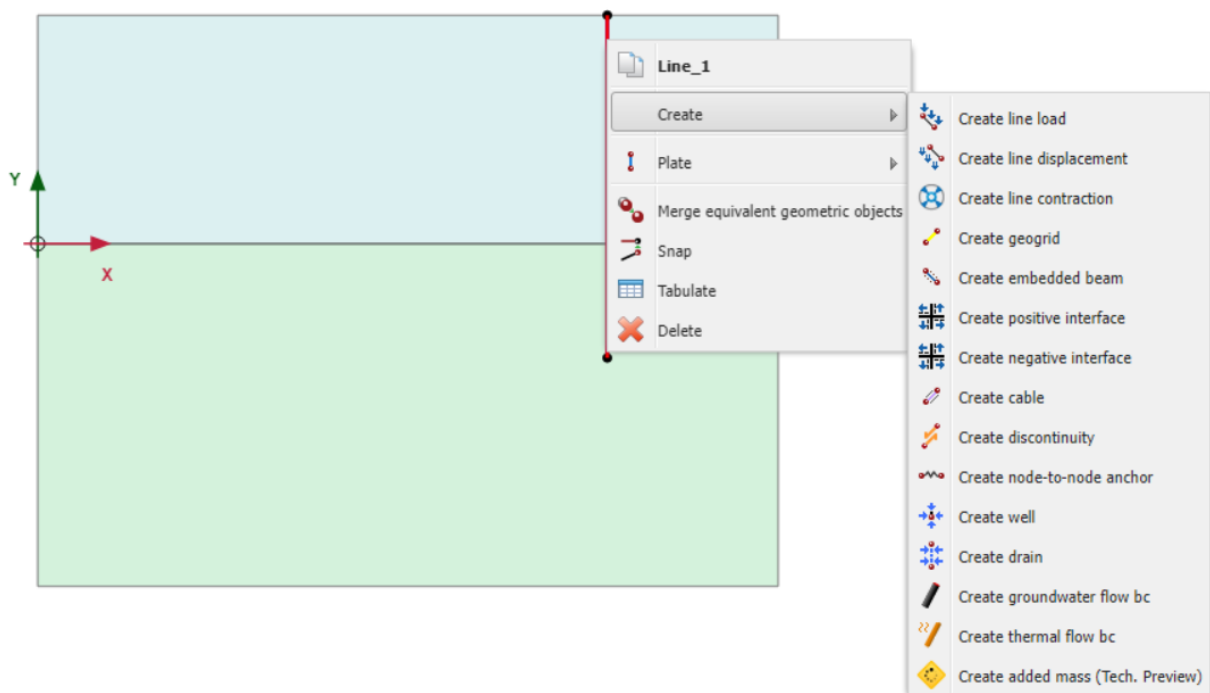

Figure 44: Create positive interface
3. In the same way assign a negative interface as well as shown in Figure 44 (on page 58).